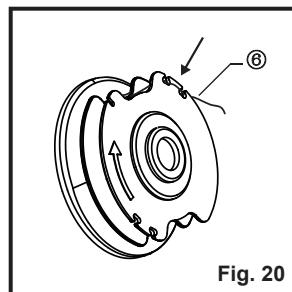

Fig. 20
8. After winding, fix the end of lines ⑥ in the parking slot of the spool (Fig. 20).
9. If you want to use, operate as described above to fix the spool on the grass trimmer. Do not forget to release the cutting lines ⑥ from the parking slot.